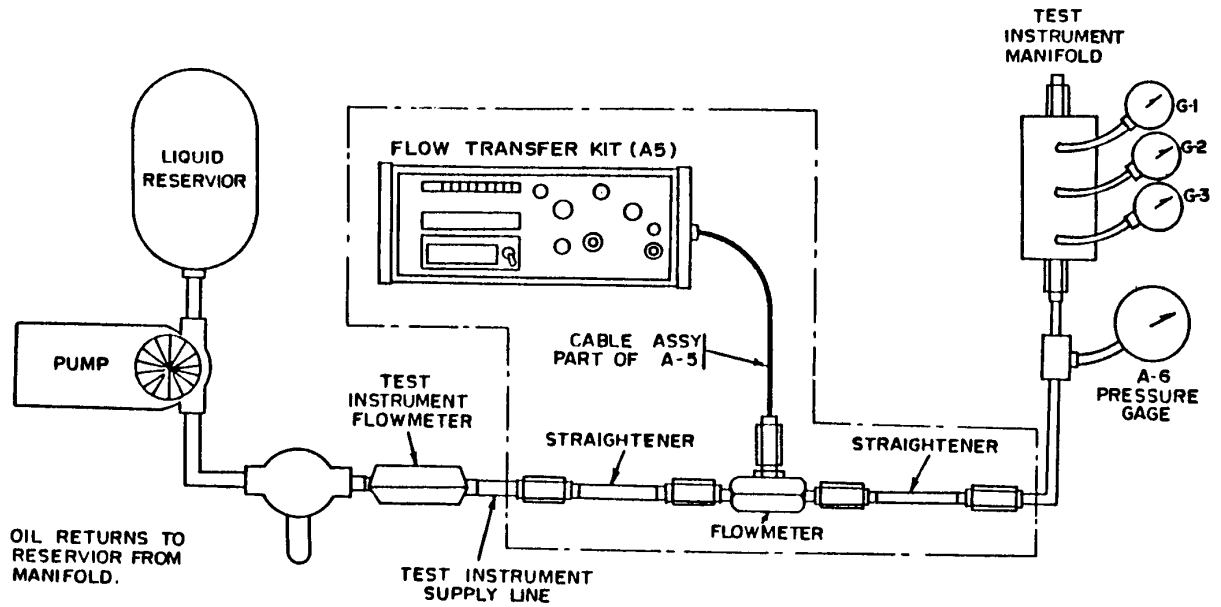

Figure 3. Flow setup.
(1) Connect gages to calibrating manifold: G1 to A1 on manifold, G2 to A2 on manifold, G3 to A3 on manifold and connect equipment as shown in figure 3.
(2) Connect P3, cable W3 to J3 and P4, cable W4 to J4.
(3) Set DC VOLT ADJ T2 dial to approximately 70.
(4) Set TI flowmeter switch to VOLT ADJ position.
(5) Set TI switches S1 and S2 to OFF and S3 switch to START.
(6) Connect TI to 120-V, 60-Hz power source.
(7) Set TI switch S1 to ON and S3 switch to 1. Turn flowmeter VOLT ADJ until needle on GPM meter coincides with V. ADJ line, then set flowmeter switch to FM1.
(8) Set TI switch S3 to 2, adjust DC VOLT ADJ T2 until M2 and M3 read approximately 0.35 A. M1 should read between 8.2 and 11.8 V.
(9) Set TI switch S3 to 3, adjust R2 dial until M2 reads 0.70 A.
(10) Set TI switch S3 to 4, adjust R3 dial until M3 reads 0.70 A.
(11) Set TI switch S3 to 1.